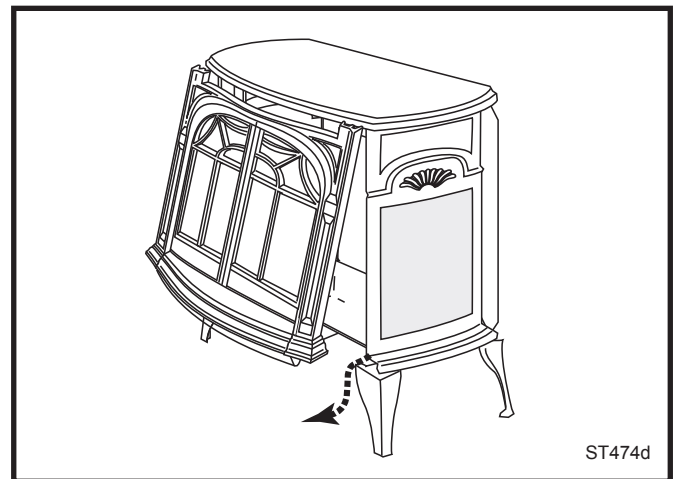

Fig. 78 Remove the Stove Front.
2. Lift the Stove Front up and then swing the bottom out to disengage it from the heater shell. (Fig. 78)
Replace glass only with CFM Corporation approved parts. Refer to Page 45 for Replacement Parts. Refer to Figures 78 & 79 to remove the damaged glass frame.
1. Remove the Front, Glass Frame and Glass Panel. (Figs. 78, 79) Remove the old gasket. Use a razor blade to separate the glass and gasket from the frame, and to clean the glass of any remaining cement or bits of gasket. Use a cold chisel if necessary.